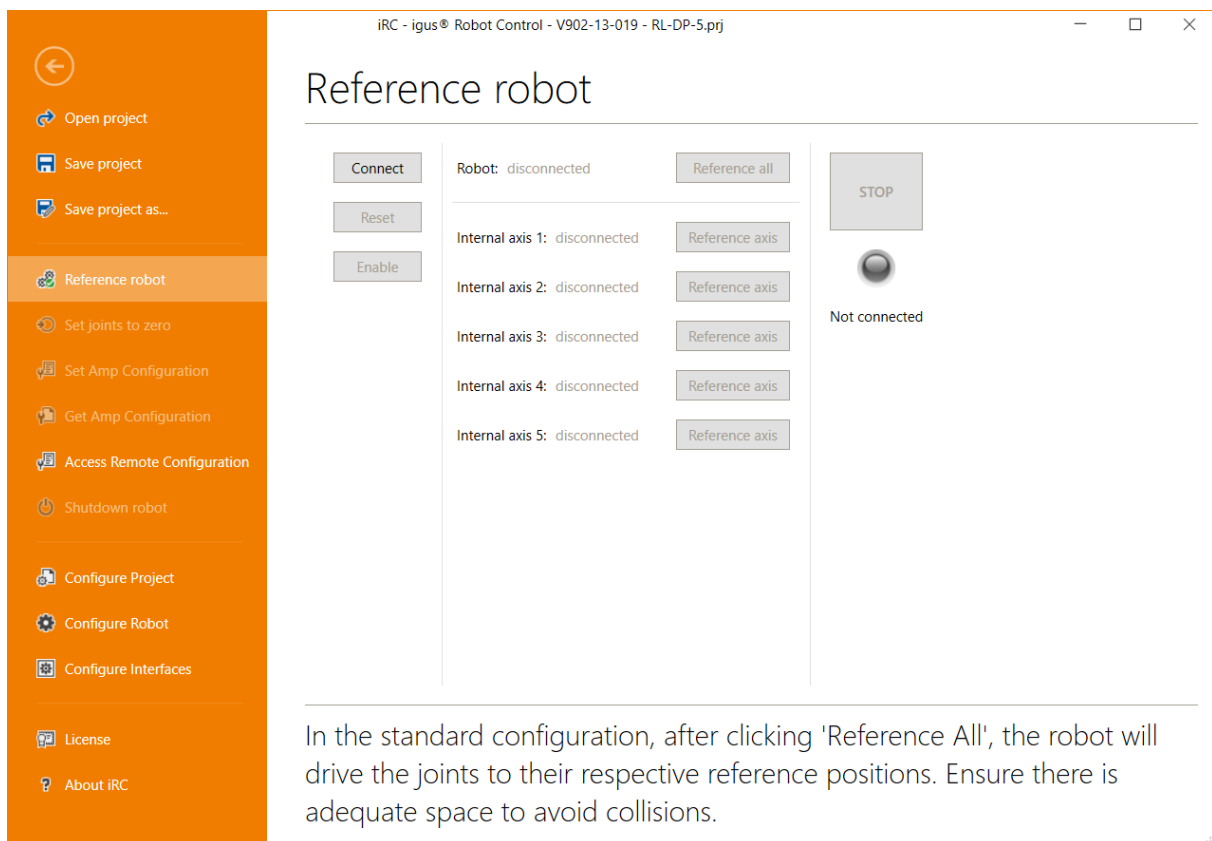

Figure 6: Referencing of the axes.
4. Click on the "Reference Axis" buttons to start referencing an axis, see Fig. 6. Multiple joints can perform referencing in parallel.